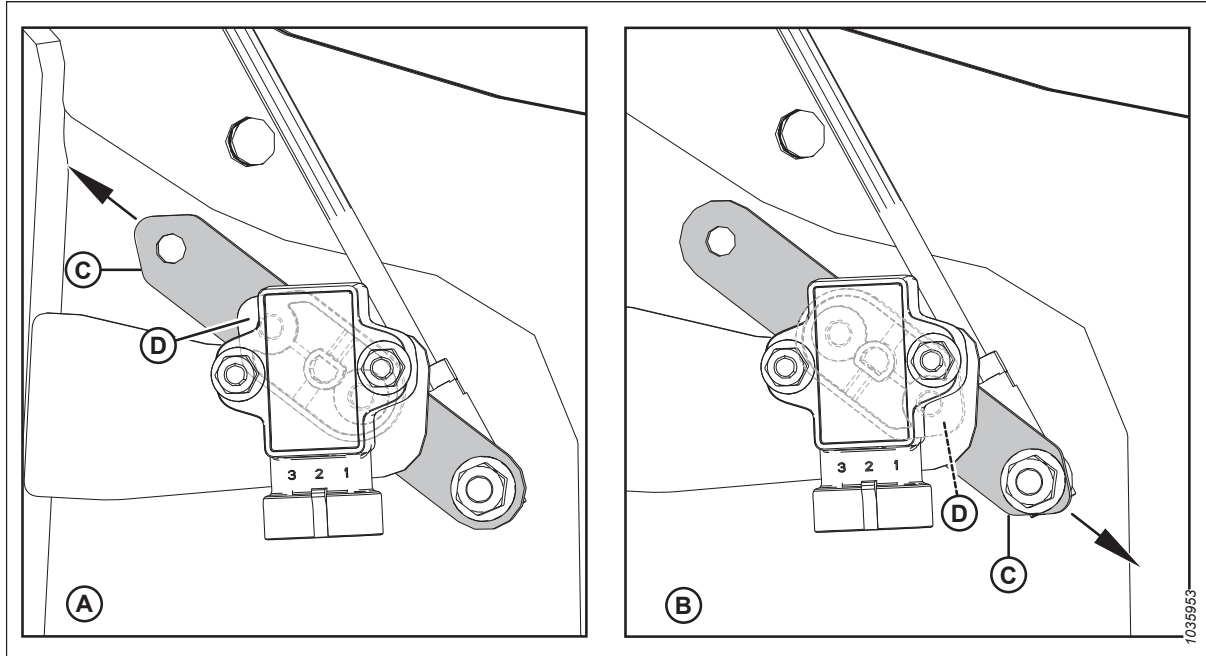

Figure 3.153: Sensor Arm/Pointer Configurations
- Ensure that sensor arm (C) and pointer (D) are configured properly for the header. For instructions, refer to Figure 3.153, page 145.